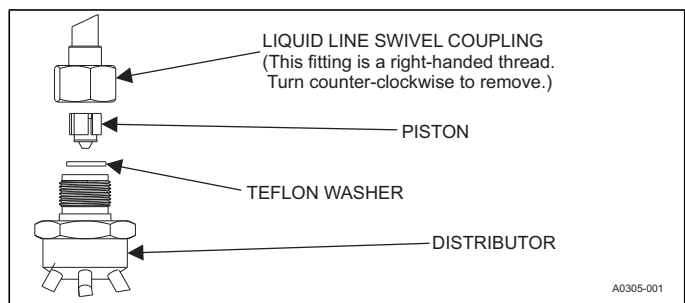

FIGURE 7: Piston Installation
7. Verify that the Teflon washer is still in place in the distributor opening. See Figure 7.